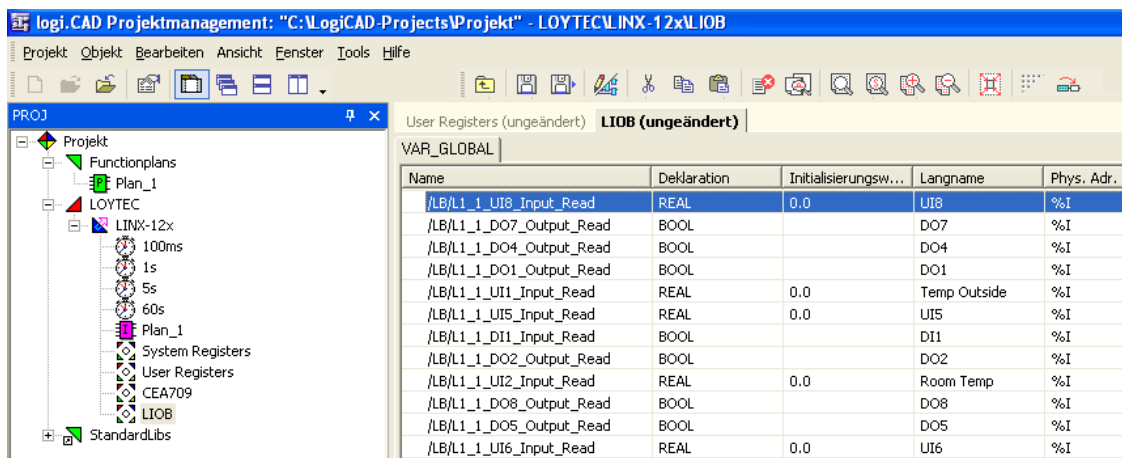

Figure 27: Exposed PLC data points appear in LogiCAD
- The data points now appear as variables in LogiCAD in a folder under the device folder. The folder is named specific to the technology of the data points, e.g. LIOB for all L-IOB I/Os that are exposed as a PLC variable. An example is shown in Figure 27.